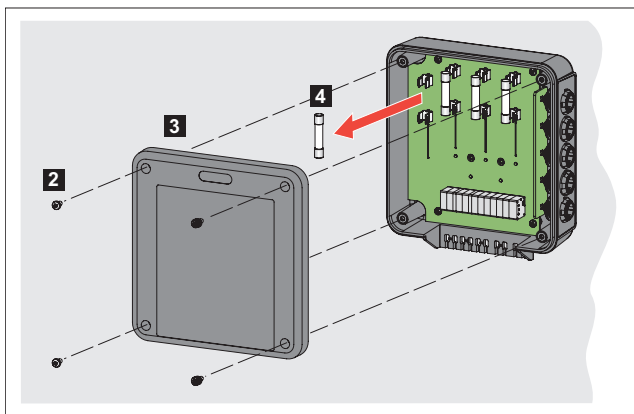

Figure 6. Fuse Replacement
2. Loosen the four case bottom screws. See Figure 6.